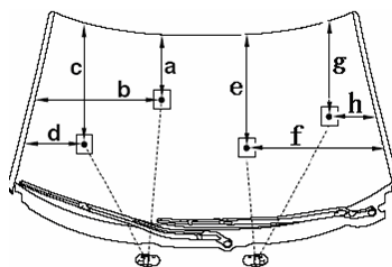
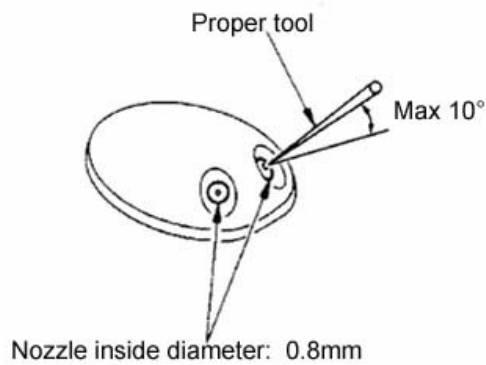

Fig. 4-94
Fig. 4-95
3. Layout of washer nozzle Fig. 4-94 and Fig. 4-95